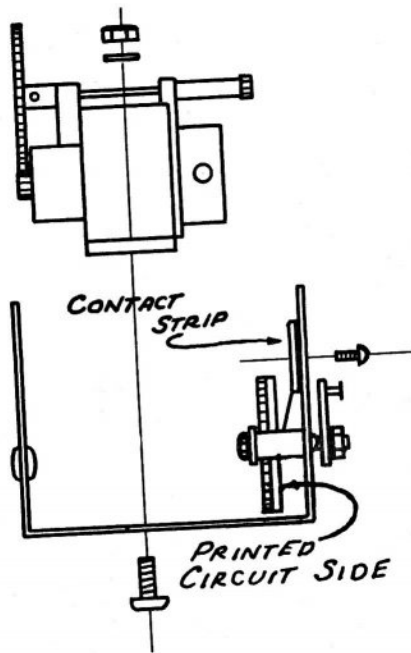
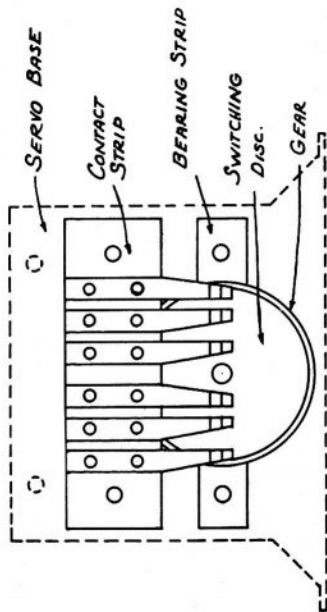

Fig. 9—Assembly Illustration
Fig. 10—Contact and Switching Alignment
5. Mount motor using paper motor shims if necessary to give proper gear mesh. Gears should not bind but have a minimum of clearance between them. See FIG. 9.
6. Place contact strip in position, see FIG. 9, using insulator strip to prevent eyelets from shorting to case and attach to case with furnished self-tapping screws. Center contacts with printed disc and tighten screws. See FIG. 10.